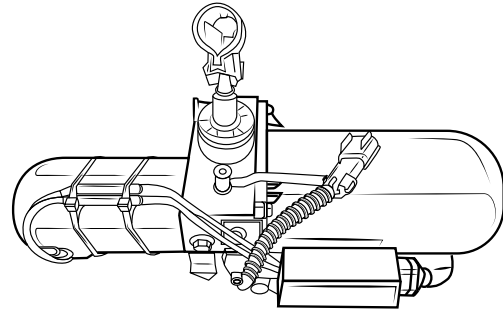

Figure 19 - Tilting cab mechanism
4. Insert the tubular lever on the side of the pump (**Figure 19**).